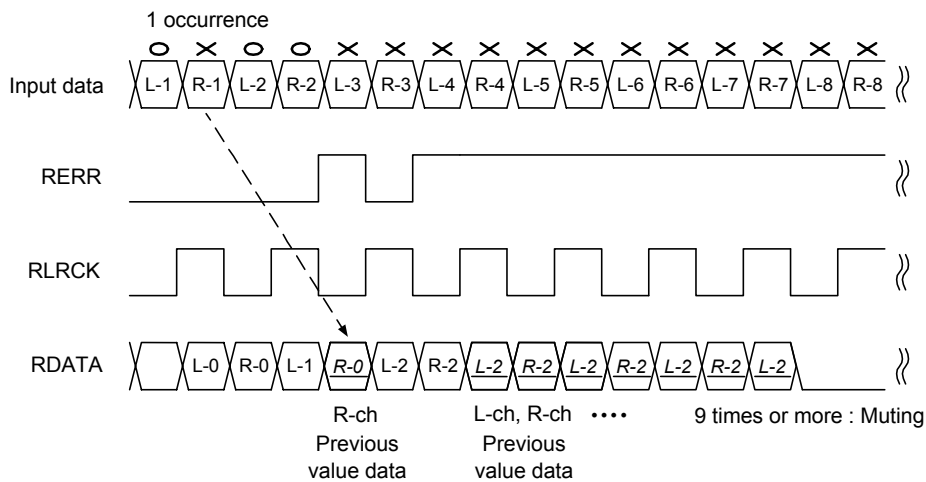

Figure 9.11 Example of Data Processing upon Parity Error Occurrence
- Figure 9.11 shows an example of data processing upon occurrence of a parity error.